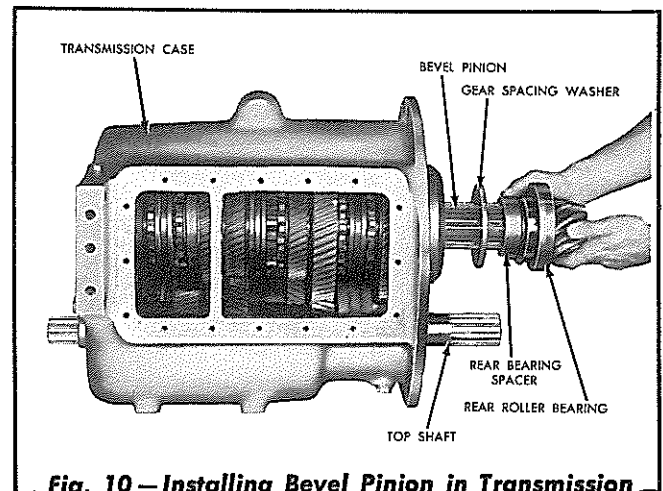

Fig. 10 — Installing Bevel Pinion in Transmission
- f. Turn the transmission case so that the top of the case rests on the work bench as shown in Fig. 10. Make certain the three (3) shifting collars are in their neutral position. Start the bevel pinion into the case from the rear. While pushing on the pinion, turn the gears and